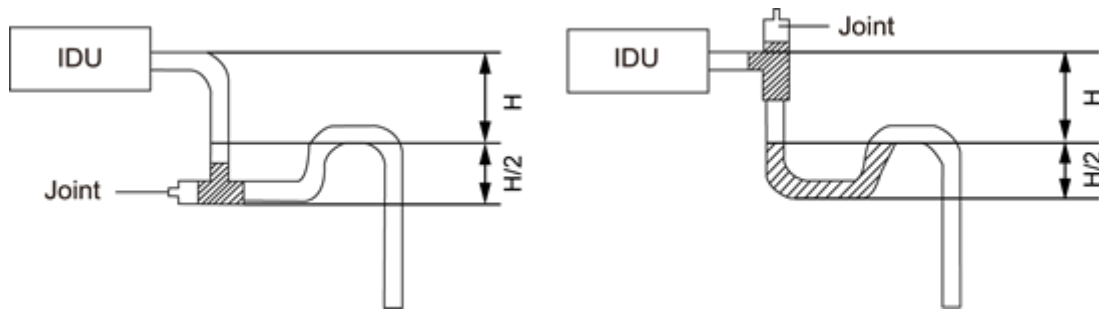

Fig 4.3.5
- (5) Install the trap as shown in following Fig 4.3.5.
- (6) Install one trap for each unit.
- (7) Convenience for cleaning trap in the future should be considered when installing it.